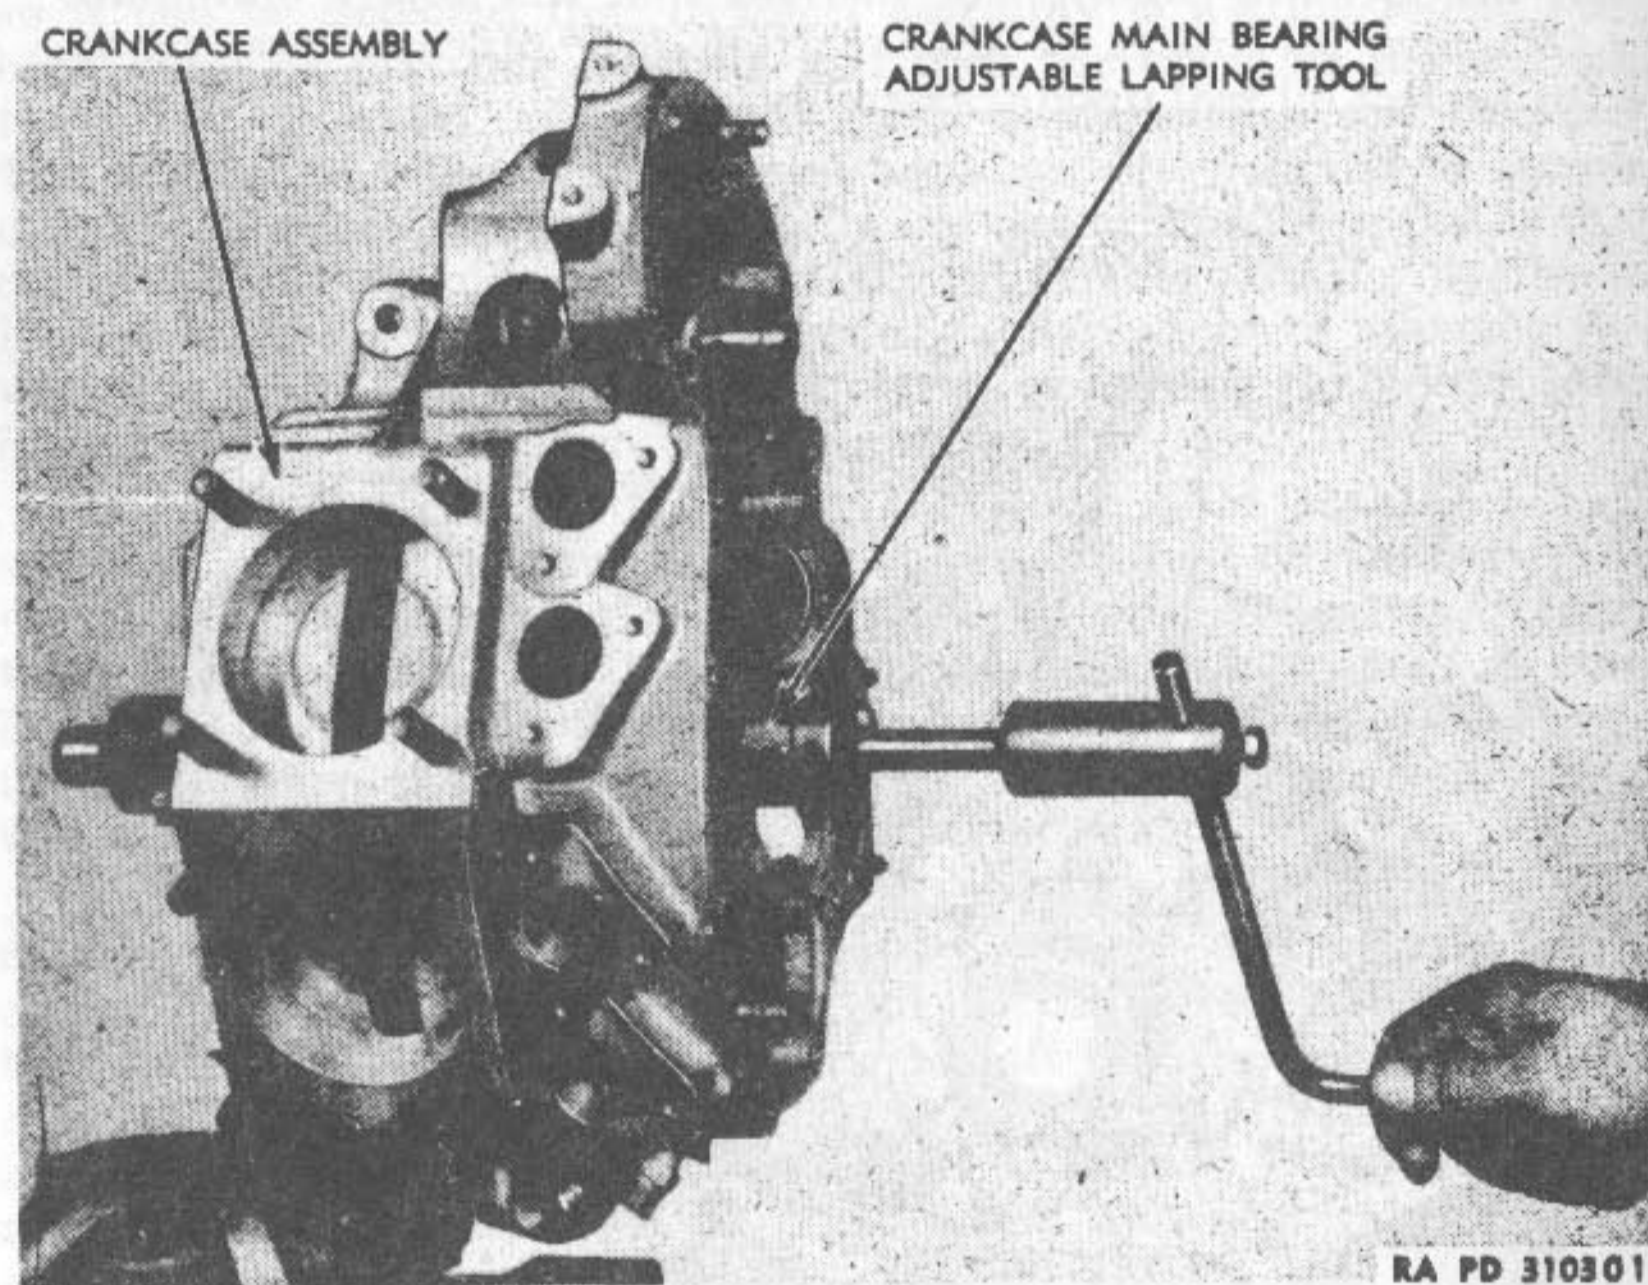

Figure 43—Lapping and Truing Crankcase Main Bearing Races with Lap (41-L-203)
(2) REPLACING MAIN BEARING RACES. When renewing main bearing races, heat cases (not above 300°F) around races. Heating expands cases slightly and less force is required to press old races out and new races in. New races, after installation, must be lapped to smooth, true and align them, and to size them so that specified bearing clearance can be attained with smallest roller sizes available.
(3) TRUING AND SIZING MAIN BEARING RACES IN CRANKCASE (fig. 43). Assemble crankcase (without flywheel assembly) and lap (41-L-203) bearing outer races to true them and remove any trace of wear shoulder at sides of roller path.